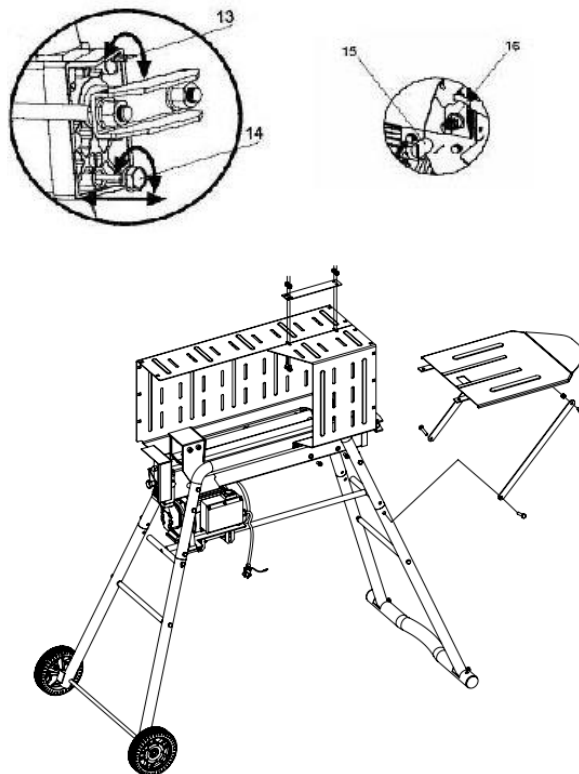

Figure 1
The figure 1 shows the maximum log sizes that can be split.
The diameter of the log is indicative: a small log can be difficult to split if it has knots or a particularly tough fiber. On the other hand, if the wood has regular fibers it is not difficult to split logs with diameter greater than the maximum shown in fig. 1.
- ④ left cover 1pcs
- ⑤ connection plate 1pcs
- ⑥ right cover 1pcs
- ⑦ fixed 17pcs
- ⑧ Inner hexagon bolt M8×16 5pcs
- ⑨ Square neck bolt M8×16 4pcs
- ⑩ Inner hexagon bolt M8×16 4pcs
Step 2: Make the two inner hexagons bolts M8×16⑧ and two M8 gaskets, successively through the installation hole of the left cover ④, use the hexagon wrench and the screw hole on the left leg for connection and fixation.
Step 3: Make the three inner hexagons bolts M8×16⑧ and three M8 gaskets, successively through the installation hole of the right cover ⑥, use the hexagon wrench and the screw hole on the right leg for connection and fixation.
Step 4: Make the square neck bolts M8×16 ⑨, successively through the installation hole of left and right cover ④⑥ and connecting plate⑤, use the wrench to tighten the four M8 anti-loose nuts. See figure 1
Step 5: Make the two inner hexagon bolts M8×16⑩ successively through the installation hole of right and left cover ④⑥ and the stock support plate ①, at the same time, use the hexagonal wrench and the general wrench to tighten the two M8 nuts and bolts.
Step 6: Make the two inner hexagon bolts M8×16⑩ successively through the installation hole of the supporting plate and the stock support plate ①, at the same time use the hexagonal wrench and general wrench to tighten the two M8 nuts and bolts. See figure 1